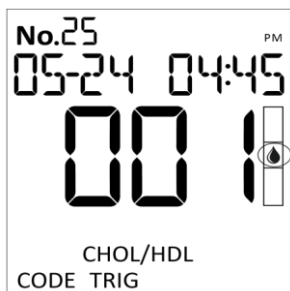

Fig 5.40
- The blood drop symbol will flash when the meter is ready for the specimen application area of the strip to apply the blood specimen (Ref Fig 5.40).